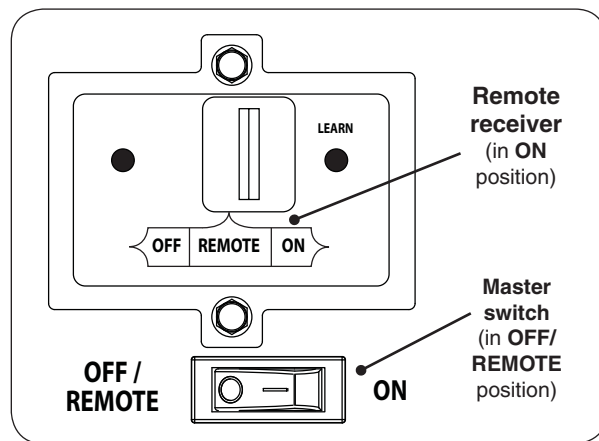

Fig. 29-1 Control panel detail
1. Ensure the master switch is in the **OFF/REMOTE** position (see Fig. 29-1).
3. Locate the 3-position switch on the remote receiver (see Fig. 29-1), and slide the switch to the **ON** position.
The master switch should remain in the **OFF/REMOTE** position to allow for remote system operation (see Fig. 29-1).